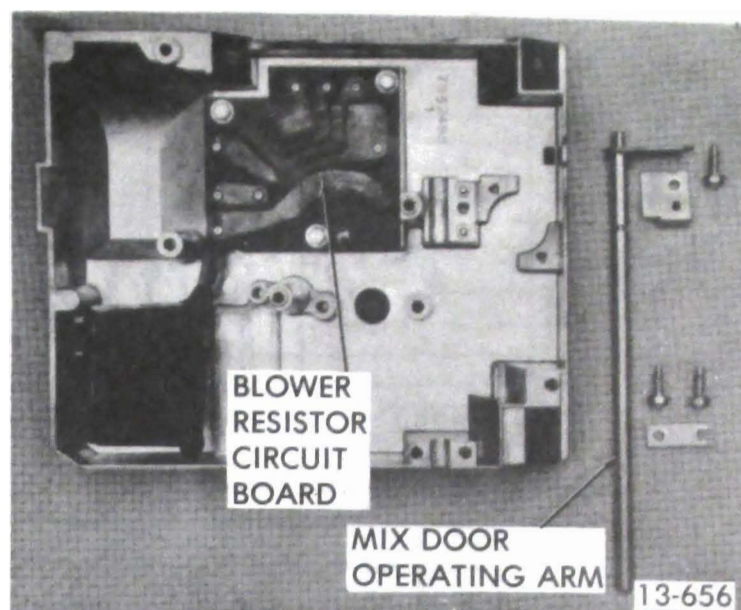

Figure 13-151 Mix Door Operating Arm - Removed
1. Replace mix door operating arm into holders. See Figure 13-151.
2. Replace the three (3) retaining screws and two (2) retaining clips.
3. Reconnect the two (2) electrical terminals and vacuum hose at the transducer.